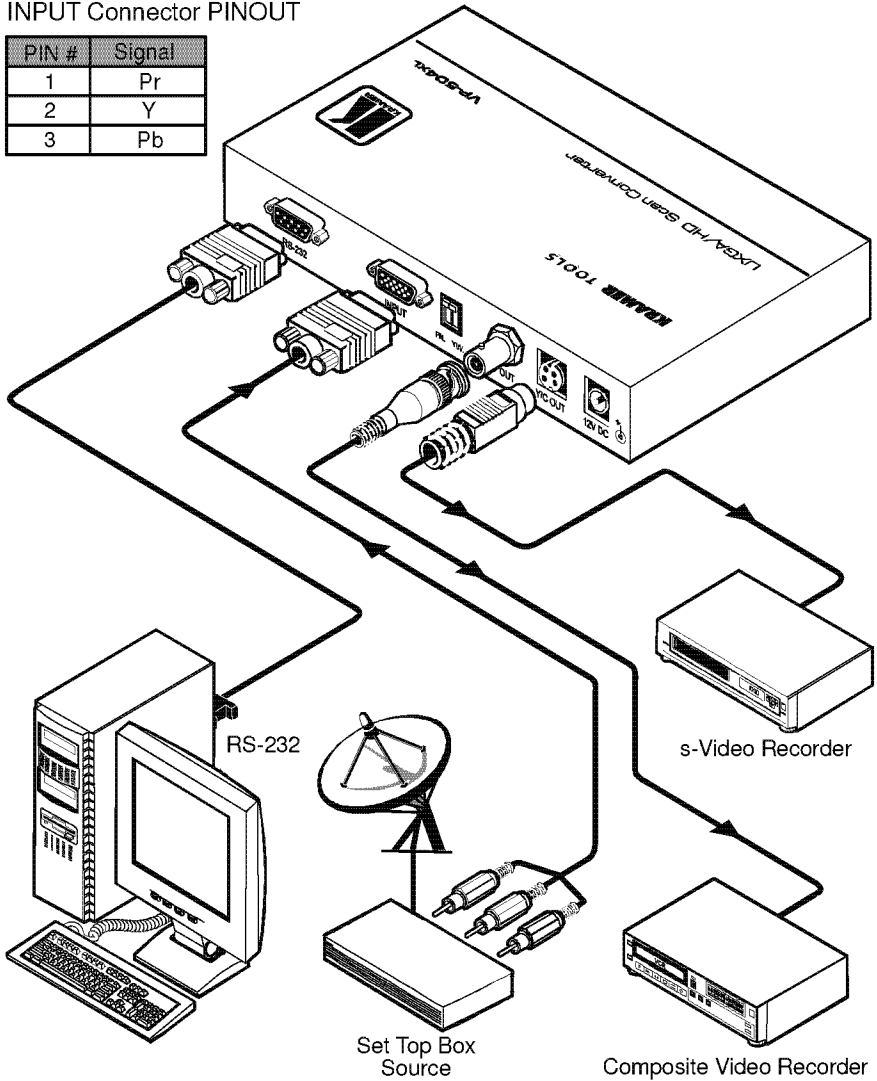

Figure 6: Connecting the VP-504xl
To connect your **VP-504xl** as the example in Figure 6 illustrates, do the following¹:
5. Connect the 12V DC power adapter to the power socket and connect the adapter to the mains electricity (not shown in Figure 6).
2 To connect a high definition source, use a breakout cable such as the Kramer C-GM/3RVF. If you have a VGA to a 5BNC cable, use the RGB wires only. For direct wiring, see the table in Figure 6